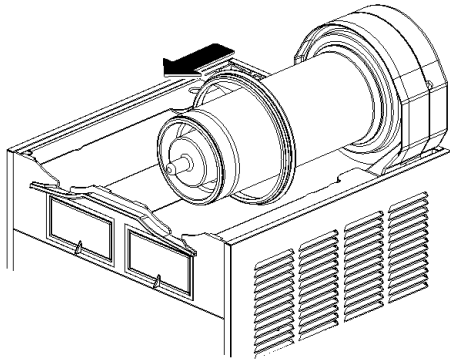

figure 9
- Remove the bowl gasket from its seat (see figure 9).